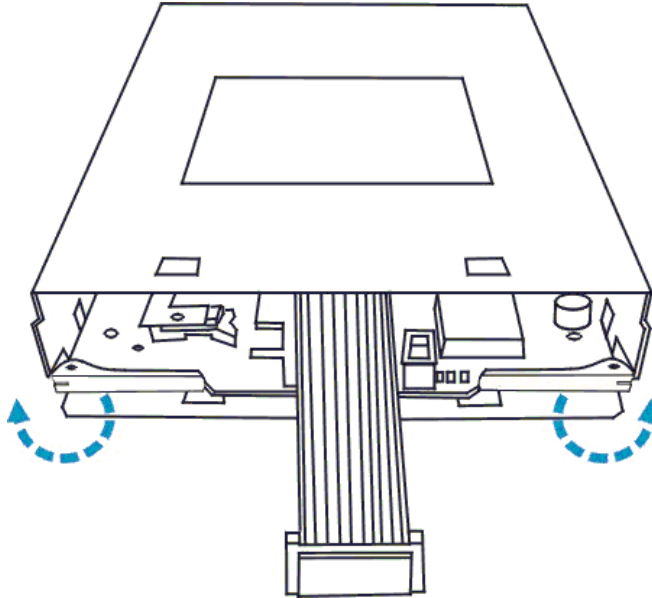

Figure 2-2: Open the Controller Board Handles
- Step 3.** ***Remove the controller board*** – To remove the controller board from the controller canister, pull the two handles at the front of the board in an outward direction until they are at an angle of 90 degrees to the controller board. The controller board will automatically be dislodged from the docking connectors that join it to the backplane. Gently slide the controller out of the canister and place it on a static free surface. See *Figure 2-2*.